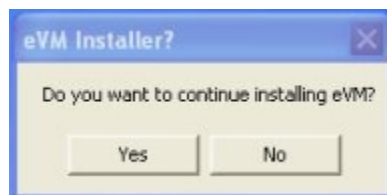

Figure F. 15 - Continue eVM for Windows Installation after Reboot
15. After the system reboots, you will be prompted to continue the eVM installation, Figure F. 15. Click **Yes**.